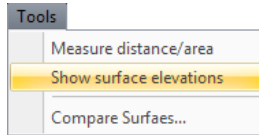

Figure 8-7. Show Surface Elevations
1. To display surface elevation anywhere within the grid surface, click **Tools ▶ Show surface elevations** (Figure 8-7).